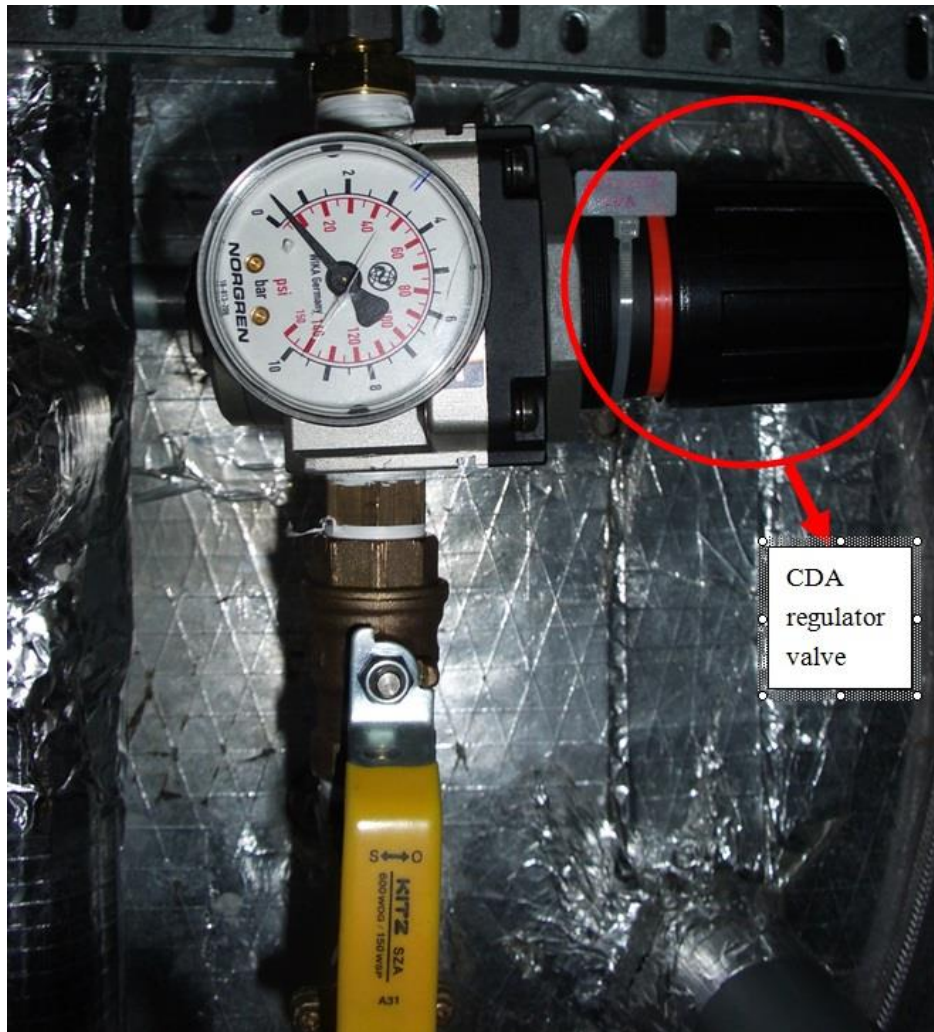

Fig.4 Location of N₂ and O₂ valves underneath the floor
4. The CDA valve is opened to have a pressure of 50 psi (Fig. 4).